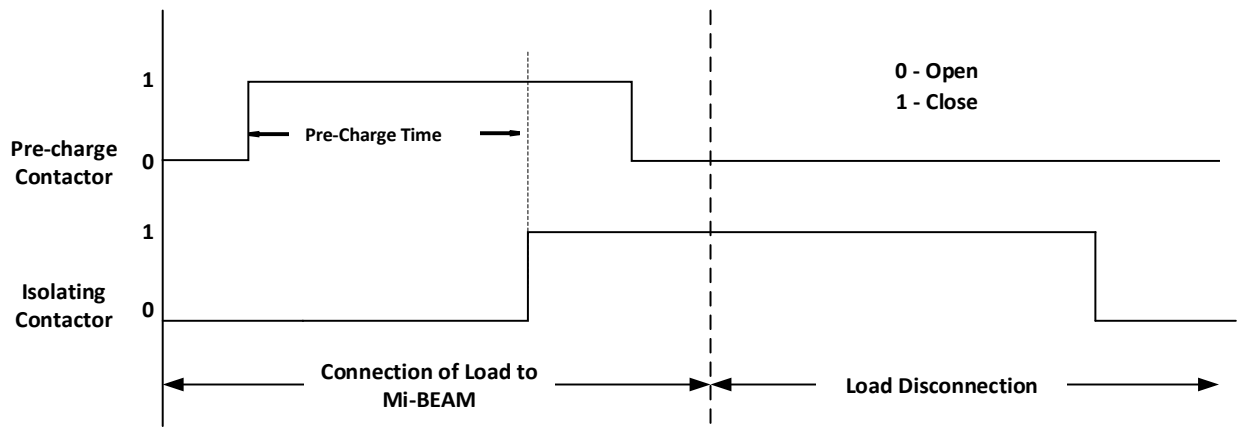

**Figure 4-2. Timing diagram showing operation of pre-charge and isolating contactor of Mi-BEAM**
- Open both isolation contactors to disconnect the Mi-BEAM from the UUT. The operation of isolation box is shown with a timing diagram, refer to Figure 4-2.